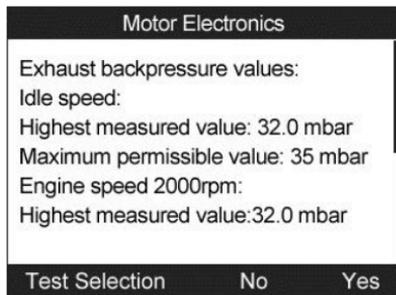

Figure 13-46
- f) The tool will submit a summary report for your confirmation.(Figure 13-46)